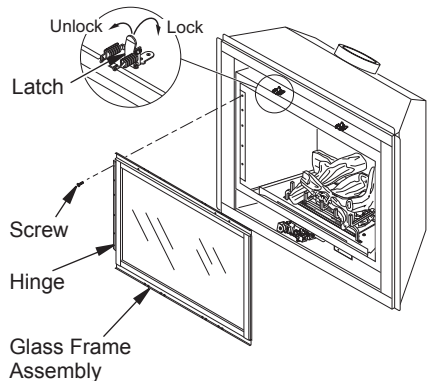

Figure 37 - Removing/Replacing Glass Door
2. Lift up on latches to unlock. There are two on top of firebox and two below firebox that hold glass door in place (see Figure 37).
3. While holding glass door to prevent it from falling and causing injury, remove the five screws from the hinge located on the left side of door frame assembly (see Figure 37).
5. Close glass door frame. Lock latches by placing the bar under the tab on door and pushing down and back on latch (see Figure 37, page 24).